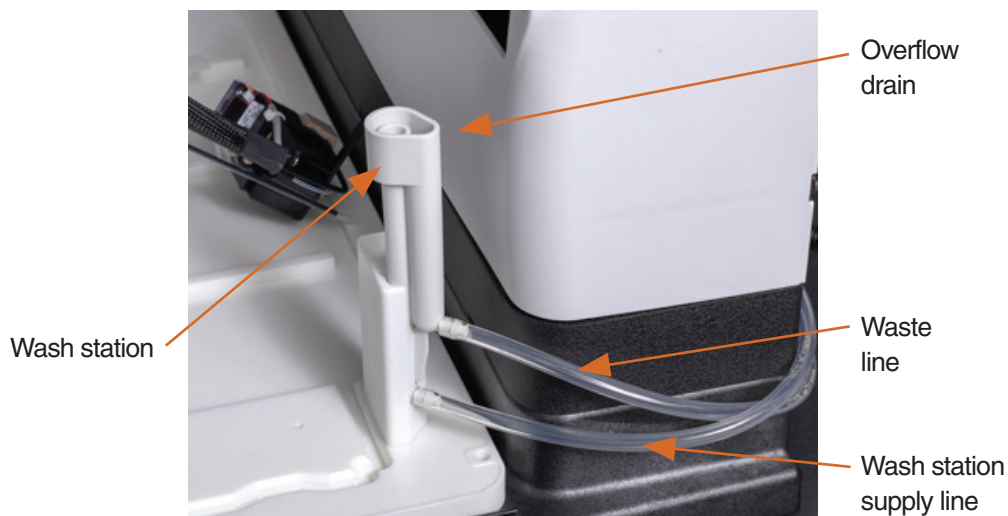

Figure 2-31 Wash station and overflow drain
3. Ensure the wash solvent is pumped into the center portion of the wash station and when full, the fluid drains into the overflow drain (Figure 2-31).